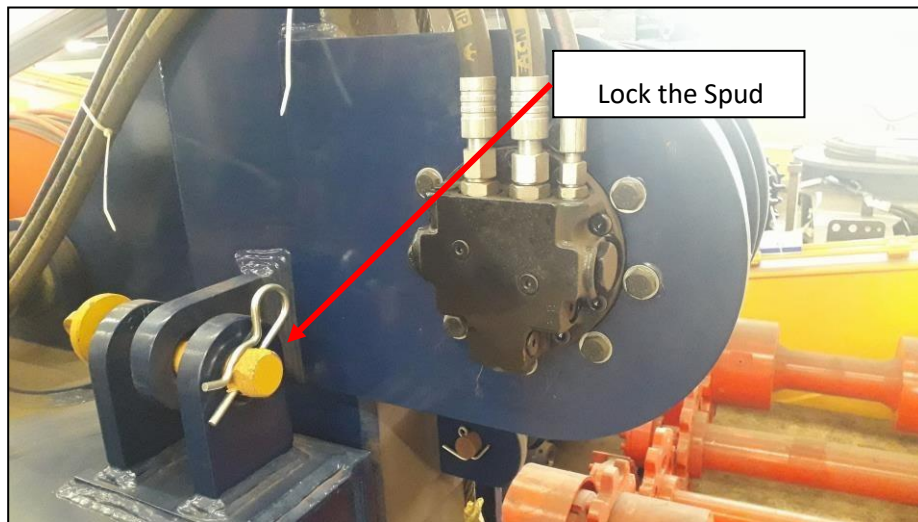

Figure 3.9: Spud locking pin
5. Once the spuds have been moved from the horizontal to the vertical position for operation, lock the spud chambers with the locking pin. Refer to Figure 3.9.